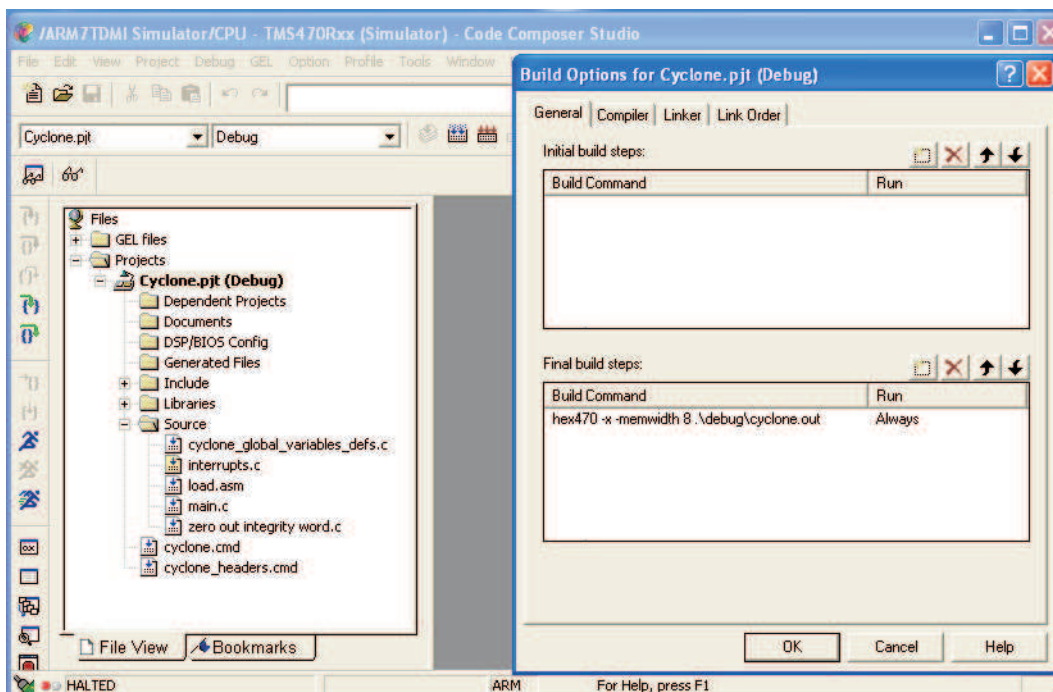

Figure 27. Open a Project File *Cyclone.pjt* (build options and general tab)
6. The next step is to convert file **Cyclone.out** to **Cyclone.x0**. “yclone.x0 is the final firmware code to be downloaded to the UCD3138 device memories. To convert **Cyclone.out** to **Cyclone.x0**, the first step is to click **General** tab under **Build Options for Cyclone.pjt (Debug)**, as Figure 27 shown, under the **Build Command**, confirm the file to be converted is **Cyclone.out**, then click ok to close **Build Options**.